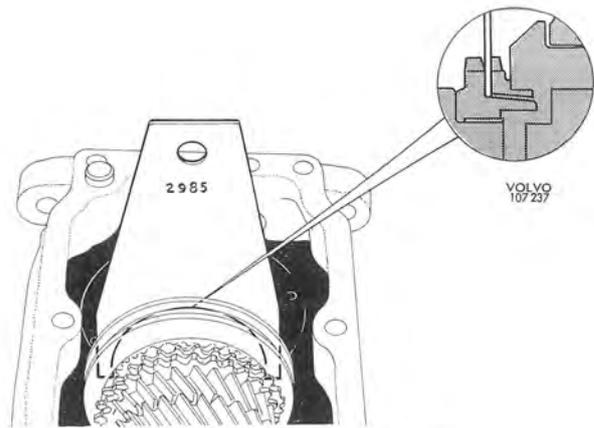
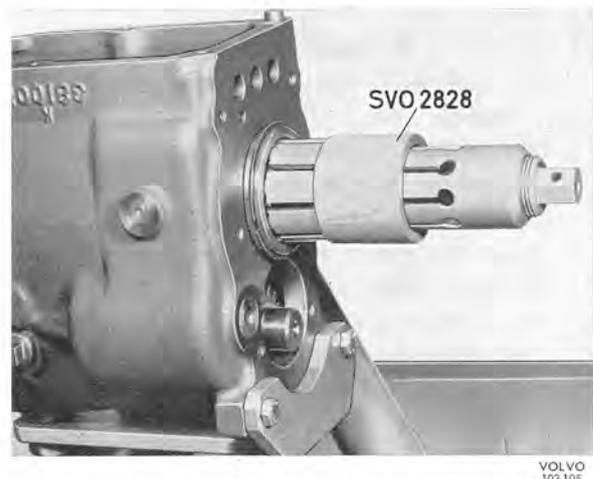

Fig. 4-17. Counterhold for mainshaft
Fig. 4-18. Removing mainshaft rear bearing, M 400
5. Place counterhold 2985 between the input shaft and the front synchronizing, see Fig. 4-17. Pull off the mainshaft rear bearing with puller 2828, see Fig. 4-18. For M 410, remove the bolt in 2828 and replace with tool 2832. Thereafter pull off the rear bearing in the same way as for M 400, see Fig. 4-19.